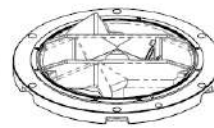

Figure 5-26
- Fetch a new gasket and place it into the seal groove. It shall be in the seal groove naturally (see Figure 5-26);